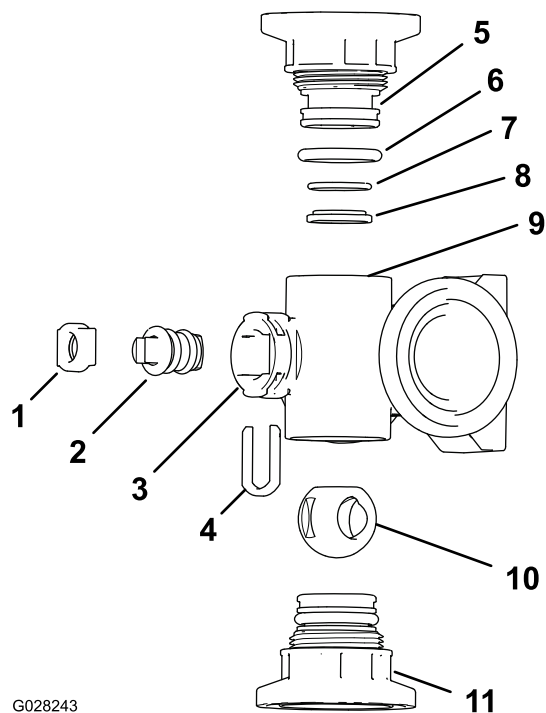

Figure 77
2. Remove the 2 end-cap-fitting assemblies from each end of the manifold body (Figure 77 and Figure 78).
- Remove the stem retainer from the slots in the stem port in the manifold (Figure 77 and Figure 78).
- Remove the stem retainer and valve stem seat from the manifold (Figure 77 and Figure 78).
- Reach into the manifold body and remove the valve-stem assembly (Figure 77 and Figure 78).
- Check the condition of the outlet fitting O-rings (section valve manifold only), end cap O-rings, back seating O-rings, and ball seat for damage or wear (Figure 77 and Figure 78).
- Apply silicone grease to the valve stem and insert it into the valve stem seat (Figure 77 and Figure 78).
- Install the valve stem and seat into the manifold and secure the stem and seat with the stem retainer (Figure 77 and Figure 78).
- Ensure that the back seating O-ring and the ball seat are aligned and seated into the end-cap fitting (Figure 77 and Figure 78).
- Install the end-cap fitting assembly onto the manifold body until the flange of the end-cap fitting touches the manifold body (Figure 77 and Figure 78), then turn the end-cap fitting an additional 1/8 to 1/4 turn.